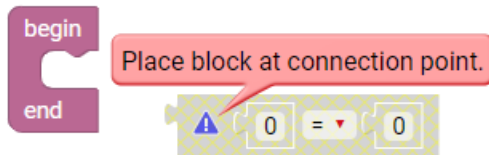

Fig. 13: Error - invalid block
- By clicking on the exclamation mark, the cause of the error can be displayed and can thus be quickly identified (see Fig. 13).